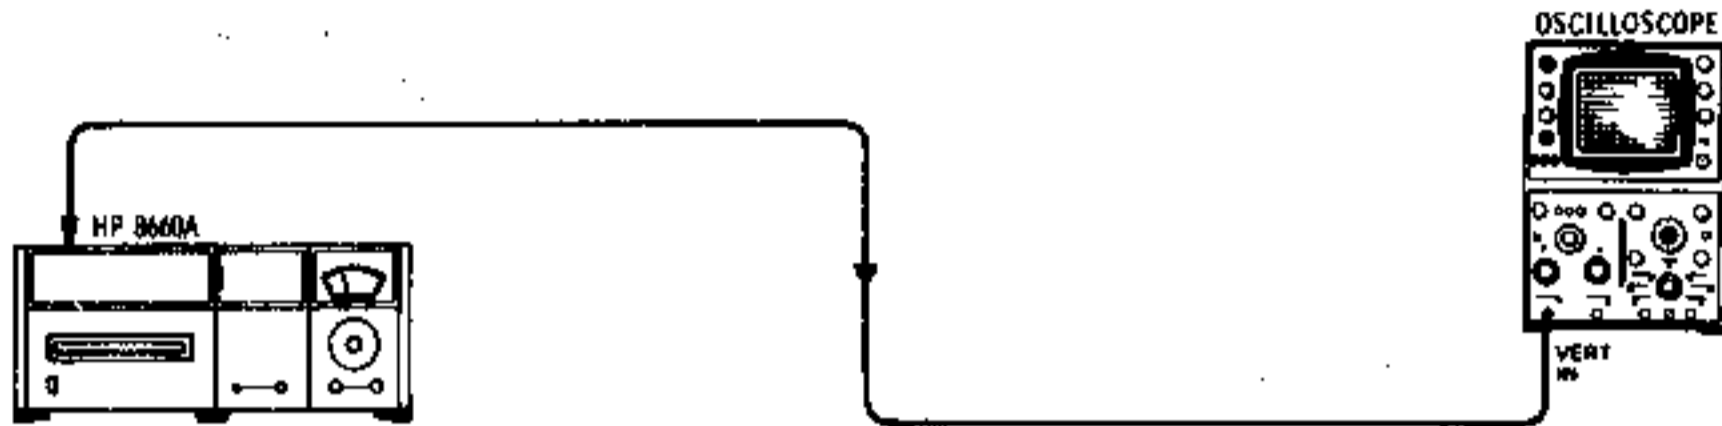

Figure 5-7. Oscilloscope Level Checks Test Setup
- a. Connect the Spectrum Analyzer RF INPUT to the 500 MHz output connector on the A4A4 assembly and tune the analyzer to 500 MHz. Set the analyzer scan width to 50 MHz per division and other analyzer controls for a clear display. (See Figure 5-7).